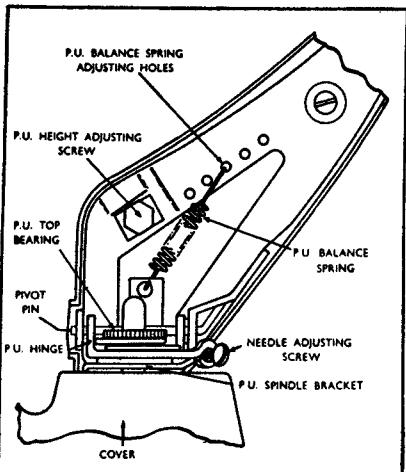

FIGURE 4.
**Needle Set-Down.** --The set-down position of the needle on the record is adjusted by manipulation of the needle adjusting screw (Item 8M261). (See Figure 4.) Adjust this screw until the correct set-down of the needle on a 10" record is obtained. The correct position is 1/8" from the edge of the record. It is advisable to make this adjustment with a stack of 10" records on the turntable. When correctly positioned for a 10" record, the 12" and 7" needle set-down will also be correct.
**Pickup Arm Height.** --The pickup arm height is adjusted by the pickup height adjusting screw (Item 8M257). (See Figure 4.) To raise the height of the pickup arm, turn this screw counterclockwise. To lower the pickup arm turn clockwise. The pickup height should be adjusted so that with a stack of ten average thickness records on the turntable, the point of the needle clears the top record by 1/16 inch. A check should then be made to insure that the pickup
**Needle Pressure.** --Adjustments may be made by re-positioning the pickup balance spring (Item 8M263) in the various adjusting holes provided (see Figure 4) until the correct pressure is obtained.
This must be done after the changer has switched itself off. Unsolder the pickup leads from the connecting tagstrip. Unscrew the pickup top bearing (see Figure 4) and then lift the pickup arm clear. Replace the pickup top bearing to avoid losing the spacer washer.